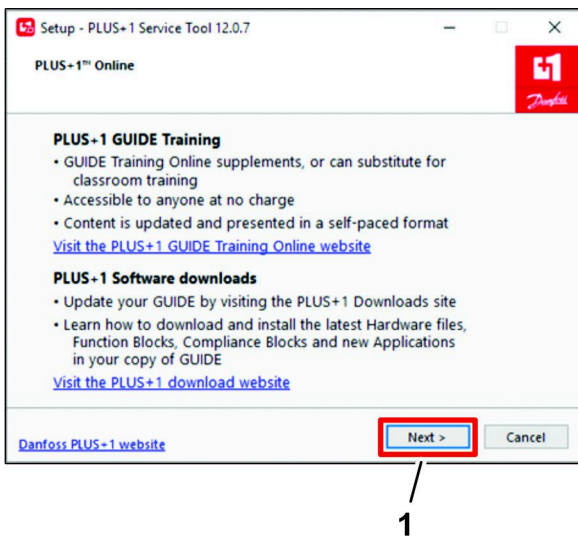

Figure 24
6. In the Plus+1 Online dialog box, click the NEXT button (Figure 24).